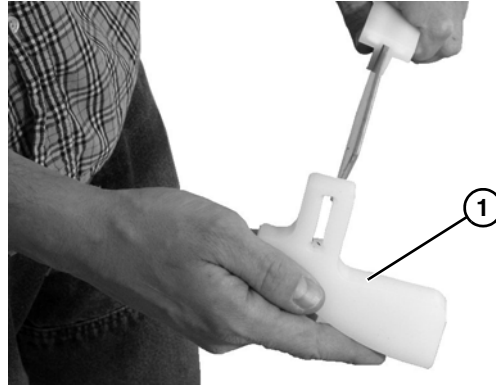

Figure 48
4. Remove and replace nose bar idler shoe if worn (**Figure 48, item 1**).